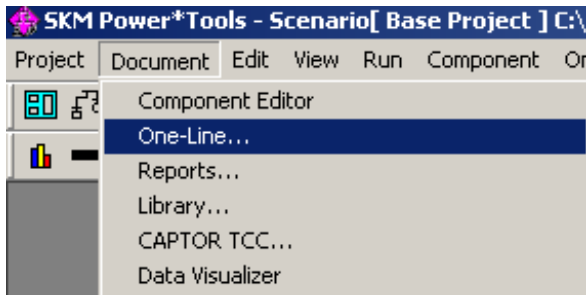

**Fig. 14. Move rotated utility symbol and rotated bus.**
13. Move the rotated symbols until they appear as shown in Fig. 14.